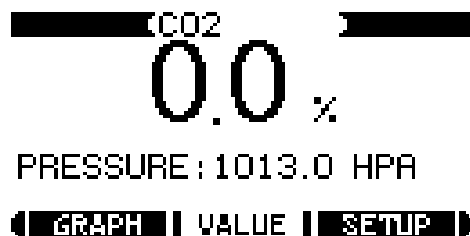

Figure 4: VALUE mode screenshot
The default mode after the start-up is the VALUE mode. It displays the name or chemical formula of the gas whose concentration is being indicated, the indicated concentration, and the pressure in the sampling cell, (See Figure 4 below)
If the navigation button beneath any of these options is pressed further options are revealed. These can be accessed through the menu system described below. If the navigation button on the right is pressed, when the display is as shown in Figure 4, the SETUP menu will be revealed and so is referred to as the SETUP button.
- 2i) While in the VALUE mode (shown in Figure 4, the default mode after switch on press the right-hand navigator button – the SETUP button.
- 3i) While in the VALUE mode (shown in Figure 4, the default mode after switch on) press the right-hand navigator button – the SETUP button.
- 4i) While in the VALUE mode (shown in Figure 4, the default mode after switch on) press the right-hand navigator button – the SETUP button.
- 5i) While in the VALUE mode (shown in Figure 4, the default mode after switch on press the right-hand navigator button – the SETUP button.